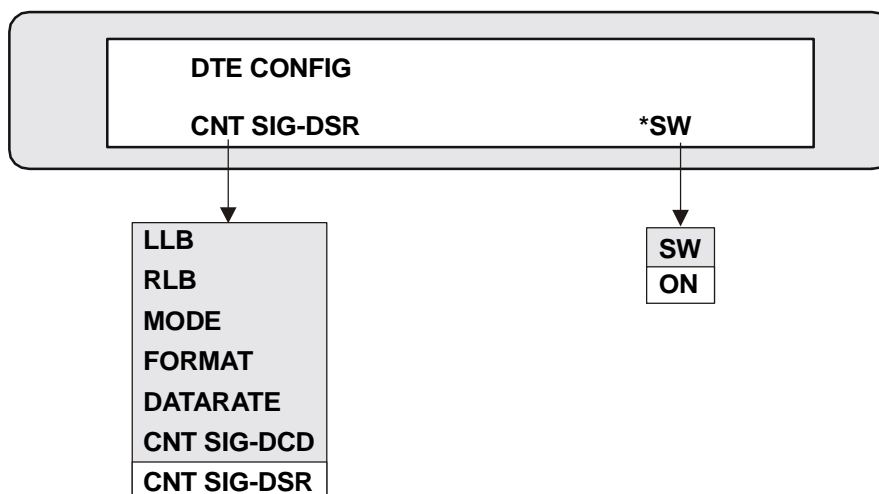

Figure 4-9. Selecting DSR Mode
4. Press the SCROLL button until CNT SIG-DSR is displayed (see Figure 4-9).